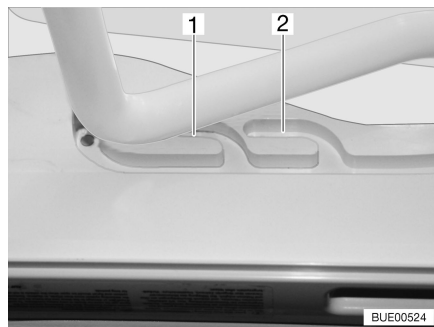

Fig. 22 Hinged skylight in ventilation position
The hinged skylight can be put in two ventilation positions: Bad weather position (Fig. 22,1) and central position (Fig. 22,2).
- Push the bar slightly upwards and into the selected guide (Fig. 22,1 or 2).